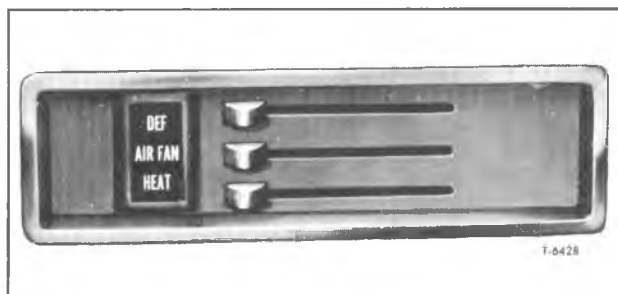

Figure 30—Deluxe Air-Flow Heater Control Panel
##### DEFROSTER LEVER (Fig. 30)
##### AIR FAN LEVER (Fig. 30)
##### HEAT LEVER (Fig. 30)
**CONVENTIONAL CAB****CONTROL ASSEMBLY REPLACEMENT****REMOVAL (Fig. 30)**